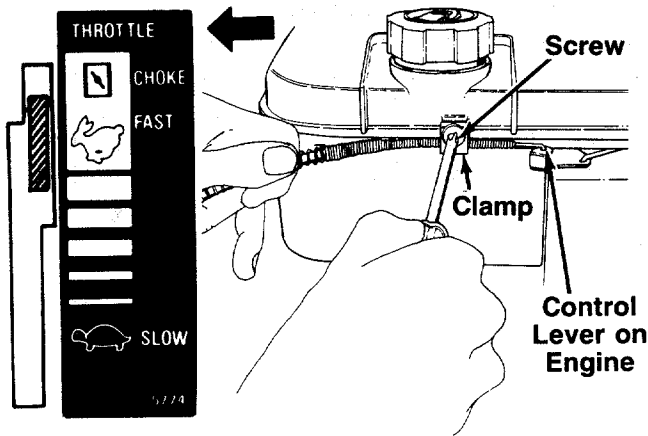

FIGURE 6C.—Models 074R & 084R
1. Push the throttle control lever on the handle all the way forward to CHOKE, then back it off two "clicks" (approximately 5/16"). See figure 6C.
2. The throttle control cable is attached to the upper handle. Route the throttle control cable under the lower handle and inside the handle mounting bracket. Hook the "Z" end of the throttle control cable into the hole in the control lever on the engine. See figure 6C.
3. Using a Phillips screwdriver, remove the screw on the cable clamp shown in figure 6C. Remove the cable clamp and the plate which is beneath the clamp.
4. Push the control lever on the engine as far toward the rear of the engine as it will go. See figure 6C. Pull the throttle control cable toward the rear of the engine to remove any slack in the cable. Secure the cable to the engine in this position, using the cable clamp, plate and screw removed in step 3 (plate goes beneath the cable).